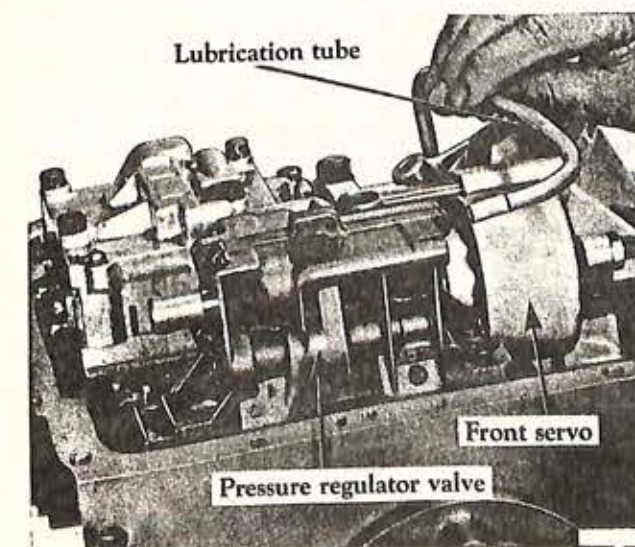

Fig. 27
6. Remove the lubrication tube (Fig. 27) from the pressure regulator and rear pump.